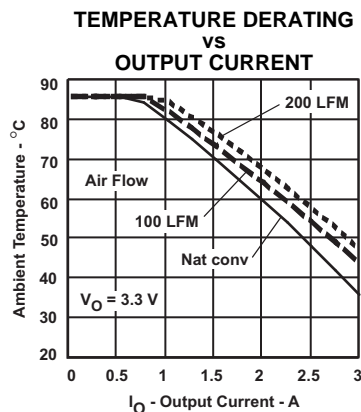
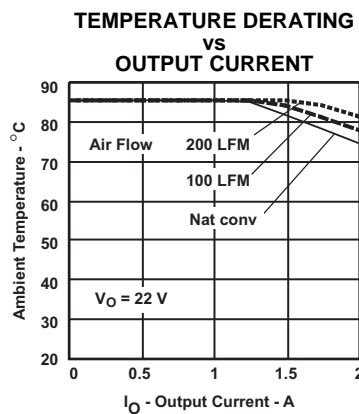

Figure 22.
Figure 26.
- (2) The temperature derating curves represent the conditions at which internal components are at or below the manufacturer's maximum operating temperatures. Derating limits apply to modules soldered directly to a 100 mm x 100 mm, double-sided PCB with 2 oz. copper. For surface mount packages, multiple vias (plated through holes) are required to add thermal paths around the power pins. Please refer to the mechanical specification for more information. Applies to Figure 22 through Figure 26.